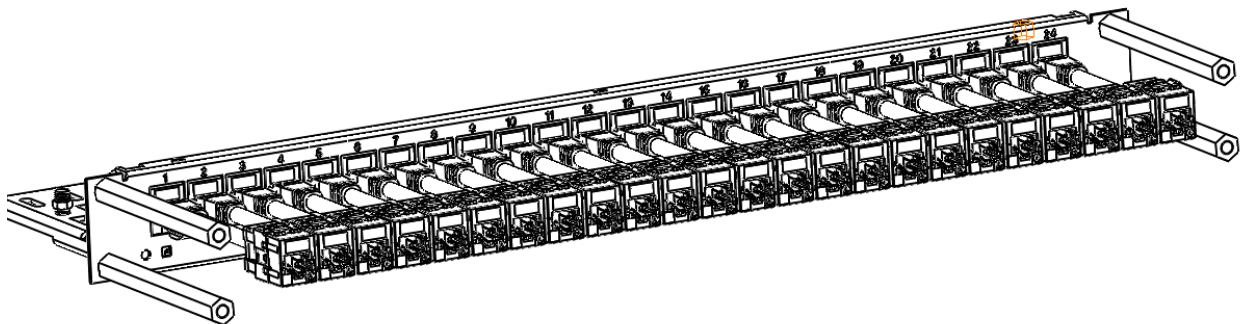

Figure 1
3. Remove mounting screws from existing panel on the rack and replace with standoffs (two required, four recommended). Standoffs should be hand tightened. (see Figure 1)
4. Insert MIIM ICS jack assemblies on each existing panel port (see Figure 1).